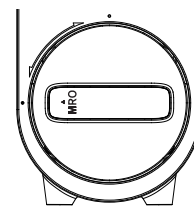

Figure 2
4. Insert the filter into the hole, aligning the arrow with the empty circle on the housing (Figure 2);